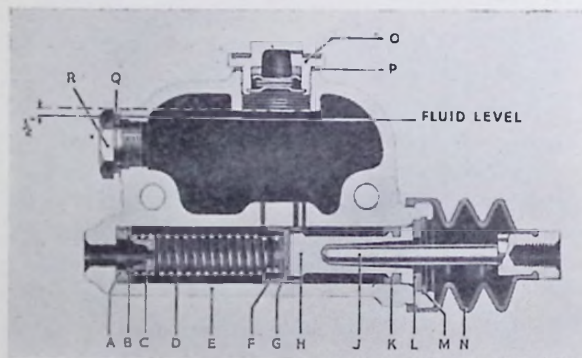

Fig. 1. Section of Master Cylinder.
Fit the rubber cup (C) in the metal body (B) and assemble the body on the larger end of the return spring (D). Assemble the retainer (G) on the smaller end of the return spring and insert the assembly into the cylinder so that the valve body is in contact with the rubber washer. Insert the main cup and the dished washer when fitted, see Fig. 1, Page HY10, (F) into the cylinder, lip foremost, taking care not to damage or turn back the lip of the cup. Press the piston (H) into the cylinder taking care not to damage or turn back the lip of the cup (K). Insert the stop (L) and fit the circlip (M), ensuring that it beds evenly in its groove. Fit the boot (N) with the vent hole leading downwards when the master cylinder is in position on the car and insert the push rods (J).